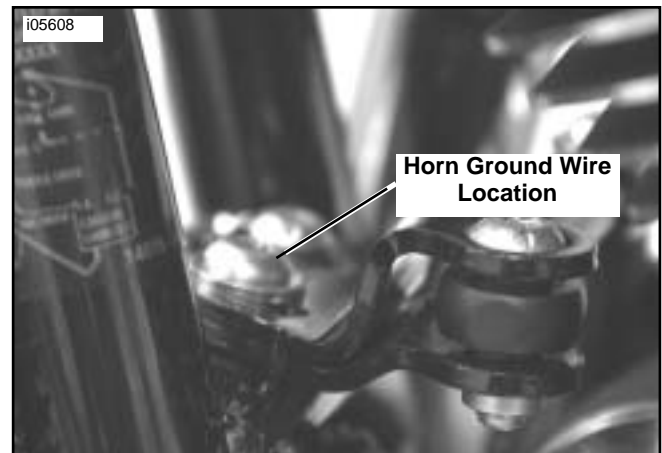

Figure 8. Ground Wire Installation Point
16. See Service Illustration and Figure 8. Obtain Ground Wire (1) from kit. Remove screw from the lower right side of lower front engine mounting bracket. Secure ring terminal of ground wire to bracket. Tighten to 25-30 ft-lbs (34-41 Nm).